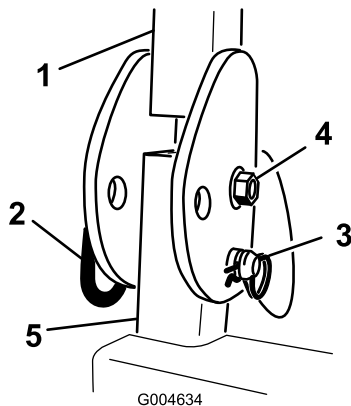

Figure 6
1. Remove the hairpin cotter pins and remove the two pins from the roll bar (Figure 6).
2. Raise the roll bar to the upright position and install the two pins and secure them with the hairpin cotter pins (Figure 6).